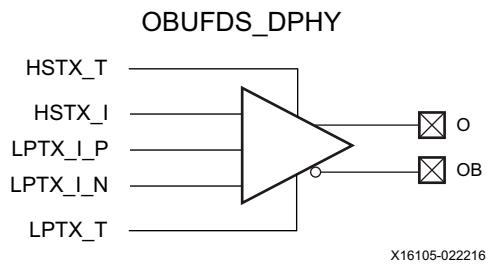

Figure 1-45: Differential Output Buffer Primitive (OBUFDS_DPHY)
The differential output buffer primitive (OBUFDS_DPHY) is only supported in the HP I/O banks in the Virtex UltraScale+, Kintex UltraScale+, and Zynq UltraScale+ devices (Figure 1-45). This UltraScale architecture specific primitive is for MIPI D-PHY transmitter implementation. The HSTX_T port is used to 3-state the MIPI D-PHY high-speed (HS) transmitter. The LPTX_T port is used to 3-state the low-power (LP) transmitter. The HSTX_I and LPTX_I(_P/_N) inputs are from the interconnect logic to the HS and LP transmitters,